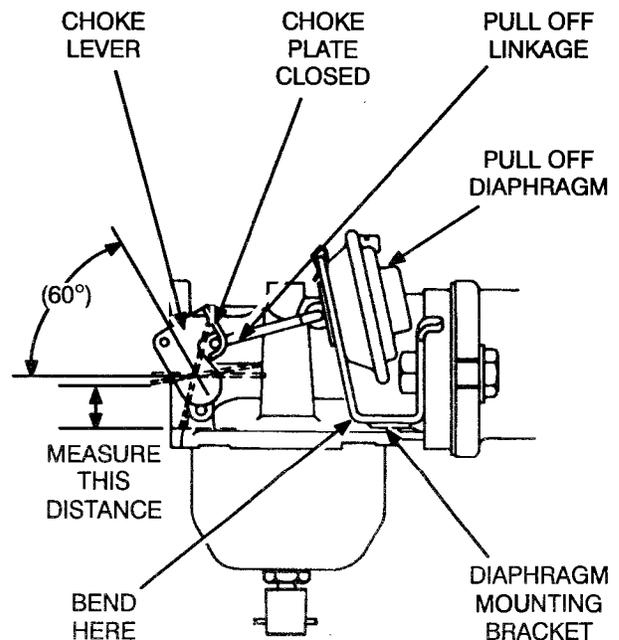

FIGURE 6-24. CHOKE PULLOFF DIAPHRAGM
3. Apply light finger pressure against the choke lever to take up all free play in the pulloff linkage (see Figure 6-24).
5. Measure the distance between the choke plate and the bottom of the carburetor at the point indicated in Figure 6-24. There should be 0.39-0.43 inch (9.9-10.9 mm) clearance here; if necessary, bend the diaphragm mounting bracket to reach this clearance.